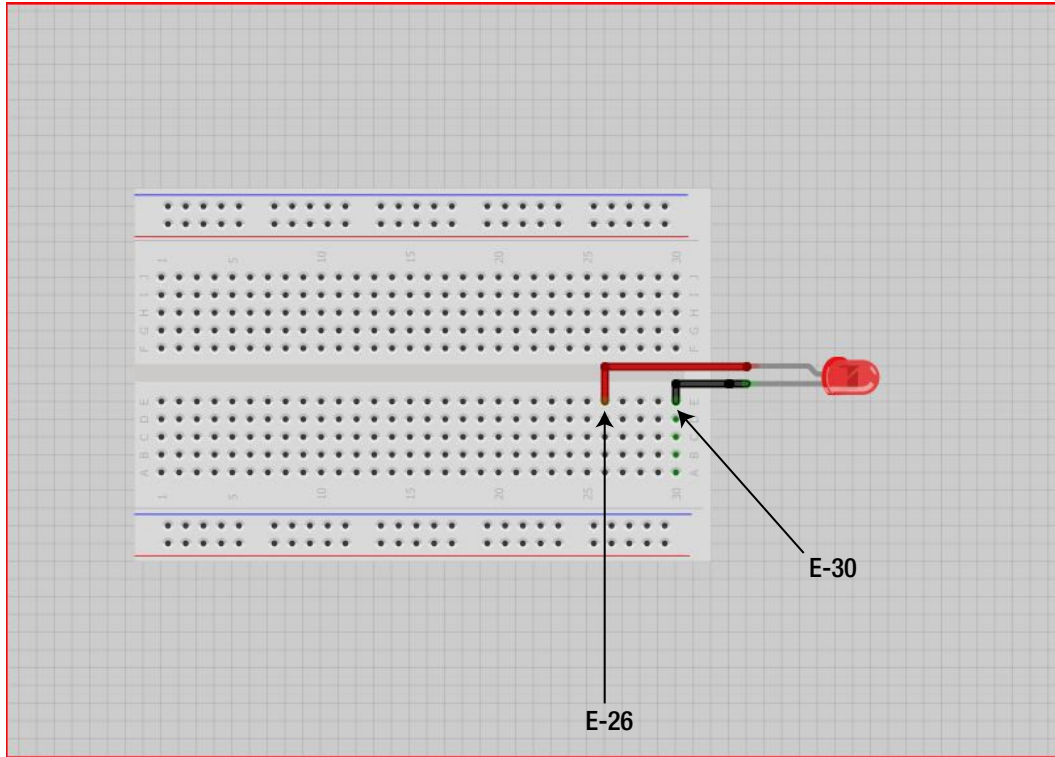

Figure 11-2. LED attached to the solderless breadboard
1. The first step is to attach the LED to the solderless bread board, as shown in Figure 11-2. Insert the longer, positive LED lead into Row 26, Column E (E-26). Insert the shorter, negative lead into Row 30, Column E (E-30).